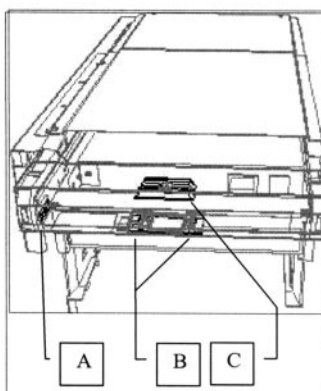

Figure 5-12. The location of the bundle output unit delivery (A), empty (B) sensors and prisms (C).
1. Locate the delivery sensor (Callout A in Figure 5-12). Clean the sensor with a soft brush. Remove dust by using a vacuum cleaner.
2. Clean the BOU empty receiver and transmitter LED's (Callout B in Figure 5-12) using a soft brush. Remove the dust with a vacuum cleaner.
3. Clean the BOU prisms (Callout C in Figure 5-12) using a soft cloth. Inspect for visible scratched or cracks.